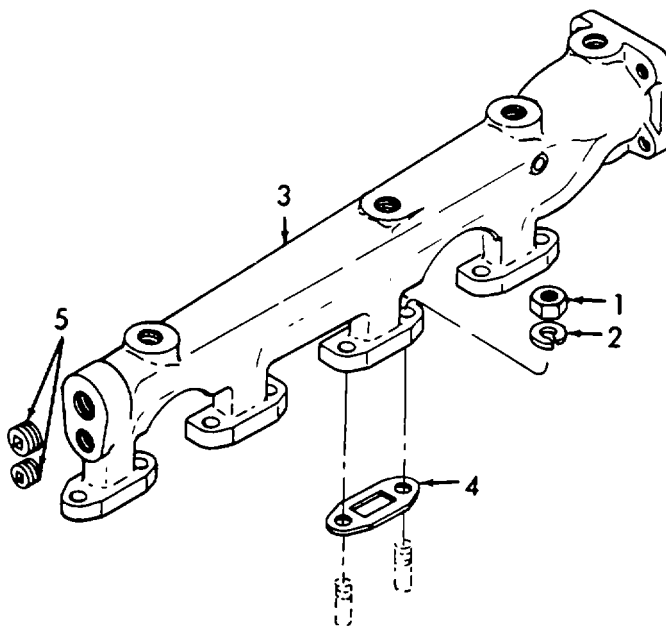

Figure 3-61. Water Manifold, Removal/Installation.
a. Removal. (Refer to figure 3-61).
- (1) Remove eight nuts (1), eight lockwashers (2), water manifold (3), and four gaskets (4). Discard gaskets (4).
- (2) Remove two plugs (5) from manifold (3).
- (1) Refer to figure 3-61 and install four new gaskets (4) and place manifold (3) into position.
- (2) Install eight lockwashers (2) and eight nuts (1). Torque nuts (1) to 25-30 lb-ft (34-41 Nm).
- (3) Install two plugs (5).
- (4) Refer to paragraph 2-17, TM 55-1930-208-10 and fill radiator with coolant.
- (5) Refer to paragraph 3-28 and install the thermostat.